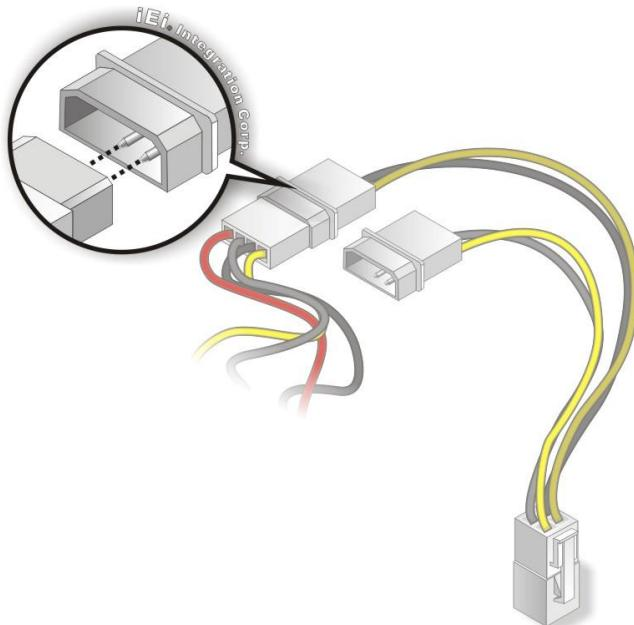

Figure 3-8: Connect Power Cable to Power Supply
Step 3: Connect power cable to power supply. Connect one of the 4-pin (1x4) Molex type power cable connectors to an AT power supply. See **Figure 3-8**.